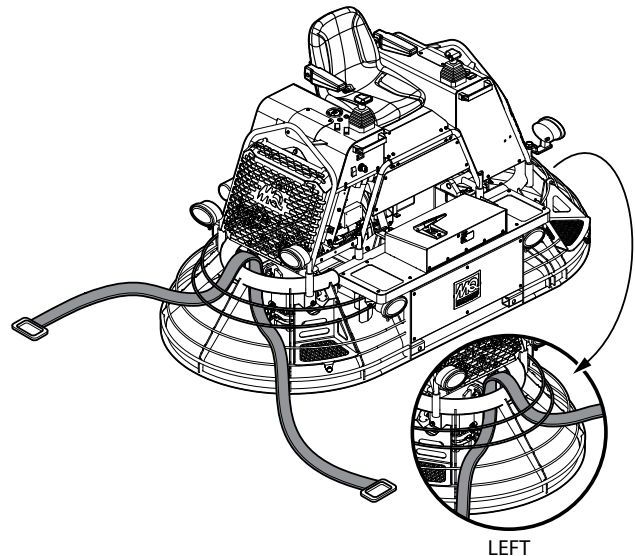

Figure 2. Routing Tie-down Straps
3. Attach suitable tie-down straps to the trowel. Route tie-down straps on both sides as shown in Figure 2.